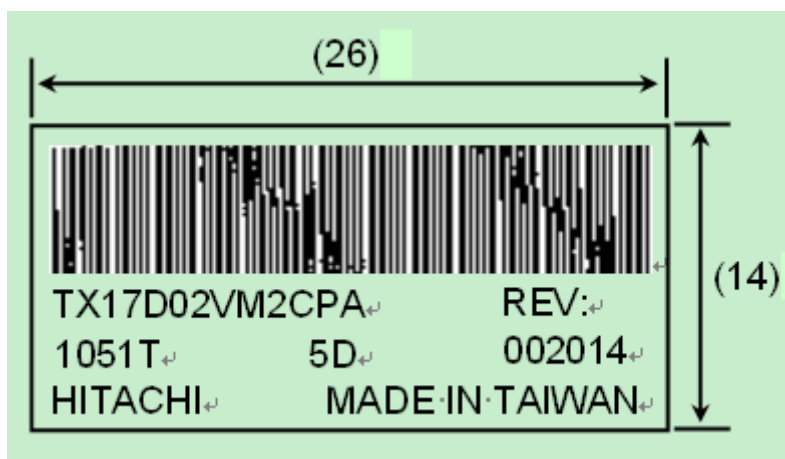

Fig 14.2
4) The location of the lot mark is on the back of the display shown in Fig. 14.2.